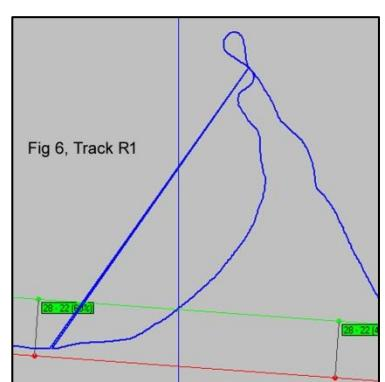

Fig 6, Track R1
- 4) There is a misplaced track point in R1 at 03:09:47 (Fig 6) which doesn't seem to be a simple random drop-out but is very close to being on the track flown 0:4:25 before